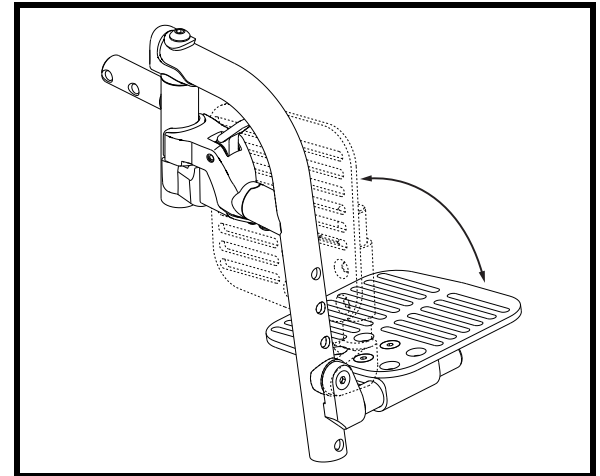

Figure 26. Foot Plate Flip Up Adjustment
The angle adjustable foot plates have two adjustments: angle and depth. The depth can be adjusted to four (4) positions in 1-in. (2.5-cm) increments. If the position of the foot plate adapter is reversed, an additional 0.75 in. (2 cm) of depth can be achieved at the most forward and most rearward positions. See **figure 26**. The foot plates can also be flipped up for ease of transfer. See **figure 26**.